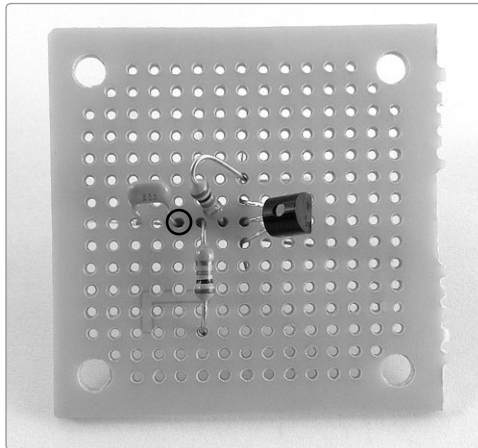

FIGURE 12-10: *The placement of the 0.1 μF input capacitor*
Step 13 Insert the 0.1 μF input capacitor into the PCB. Place one lead in the first open hole to the left of the transistor's middle leg. Insert the other lead two holes to the left so that there's an empty hole between the two legs (see Figure 12-10). Solder the rightmost lead to its pad. The middle PCB row should now have the following, counting from the right: the transistor's middle leg, the bottom lead from the first brown-green-black resistor, the top lead from the second brown-green-black resistor, and both input capacitor legs.